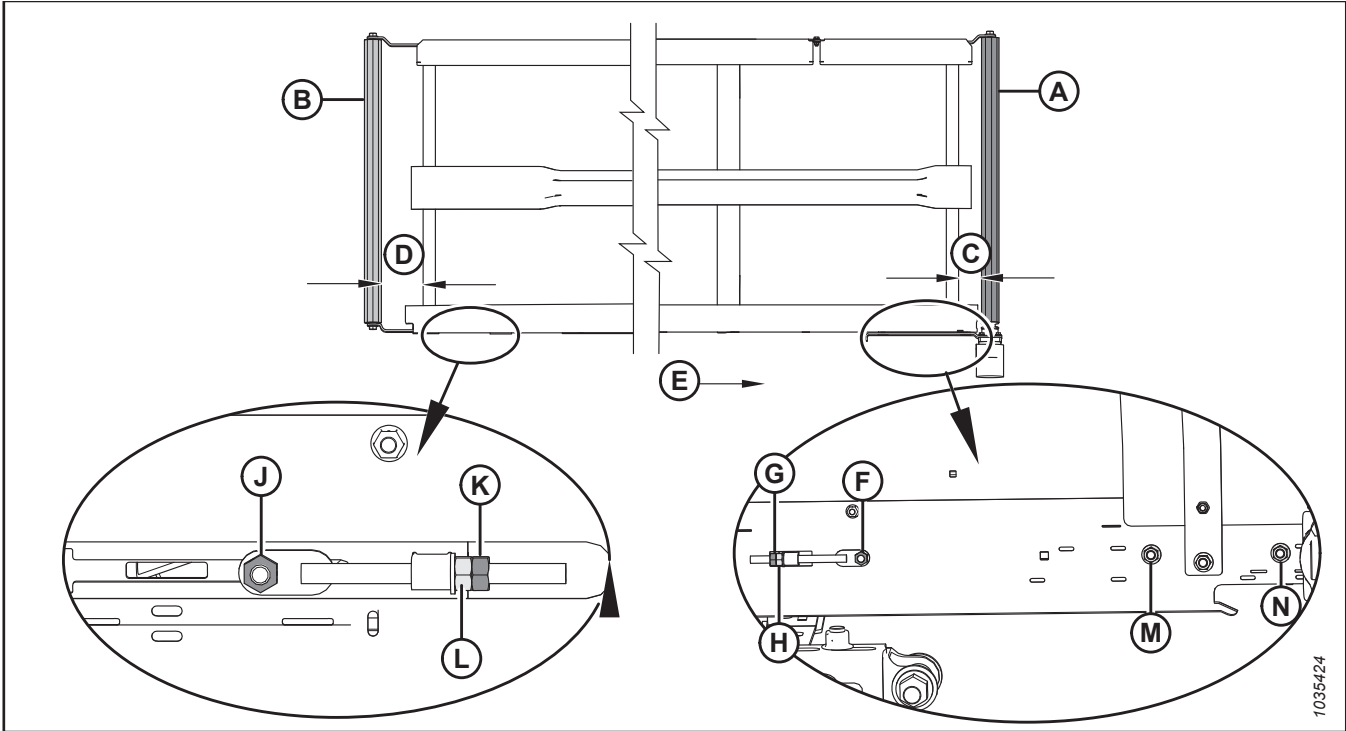

Figure 9.13: Draper Tracking Adjustments – Left Draper
2. Adjust drive roller (A) to change **C** (refer to Table 9.4, page 506 and Figure 9.13, page 506) as follows:
- a. Loosen nuts (F), (M), and (N), and jam nut (G).
- b. Turn adjuster nut (H).
- c. Tighten nuts (F), (M), and (N), and jam nut (G).
3. Adjust idler roller (B) to change **D** (refer to Table 9.4, page 506 and Figure 9.13, page 506) as follows:
- a. Loosen nut (J) and jam nut (K).
- b. Turn adjuster nut (L).